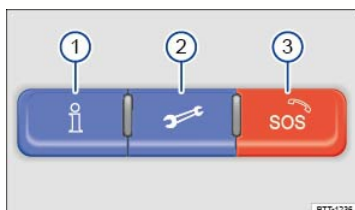

Fig. 155 In the roof console: 3-button module to connect to VW Car-Net Security & Service operators (if equipped).
You can access VW Car-Net Security & Service via your VW Car-Net iPhone® or Android® app (text and data rates apply) and the VW Car-Net Security & Service website (<http://www.vw.com/carnet>). If you have a question or would like to subscribe, please either press the ⇒ Fig. 155① button in your vehicle or contact the VW Car-Net Security & Service Response Center at 1-877-820-2290. For more information or to log on to your VW Car-Net Security & Service account, visit <http://www.vw.com/carnet>.
The Manual Emergency Call service and all other VW Car-Net® Security & Service features require a trial or paid subscription. To begin your trial or paid subscription, authentication and activation are required. For more information, please visit the website (<http://www.vw.com/carnet>), press the ⇒ Fig. 155① button in the 3-button module in your vehicle, or contact the VW Car-Net Security & Service Response Center at 1-877-820-2290.
Key to ⇒ Fig. 155 :